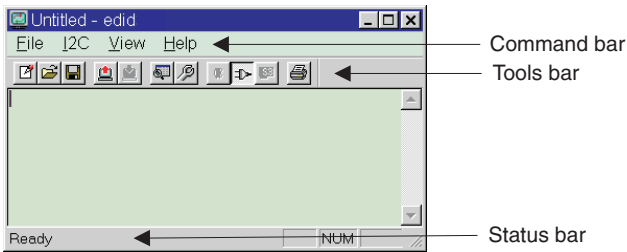

Fig. 6
5. Click  button. The main menu appears (as shown on Fig. 6).